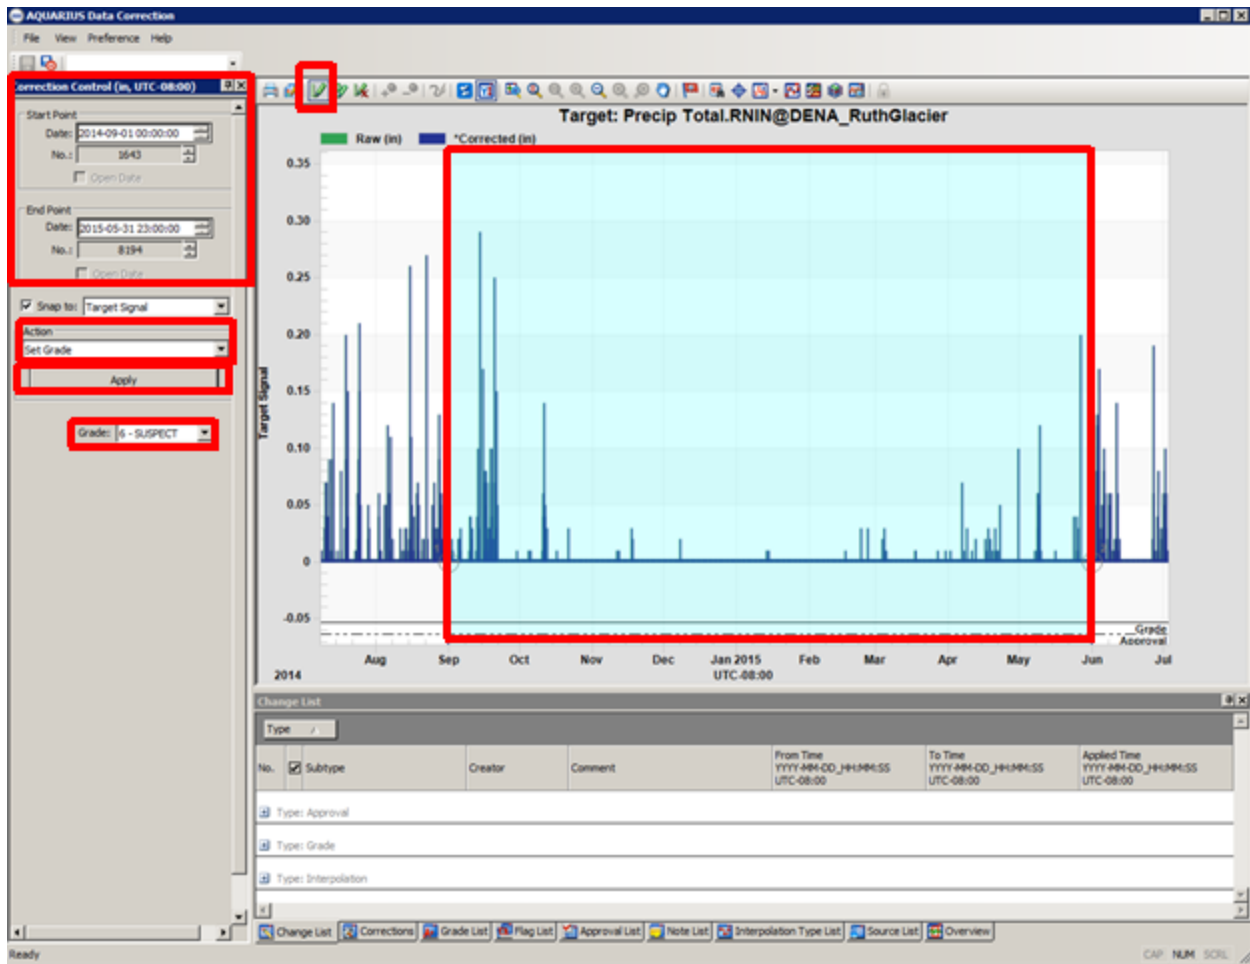

Figure SOP 11-16. Setting a data quality grade in the data corrections toolbox.
4. A common practice is to select the flat line periods (using the green pencil “Mark Region” button on the top toolbar) and grade these data as “Suspect” (Figure SOP 11-16). A note can be added to the assigned quality grade such as “Possible Icing” (Figure SOP 11-17).